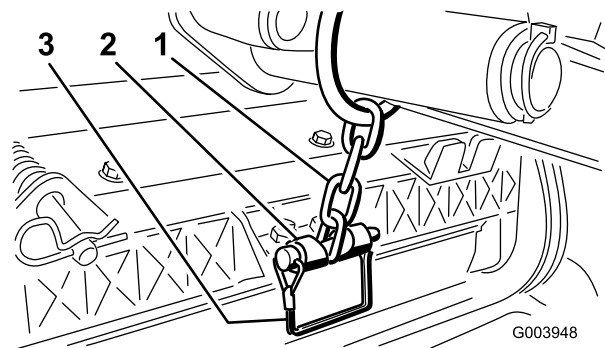

Figure 19
14. Secure the lift-arm chain to the chain bracket with the snapper pin (Figure 19).